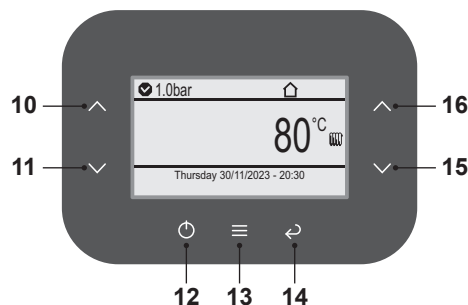

Fig. 8.47
- Press key 13 (Fig. 8.47) to go to the main menu (Fig. 8.48).
- Press key 10 or 11 (Fig. 8.47) to select the desired menu.
- Press key 13 (Fig. 8.47) to access the selected menu.
- Use key 15 or 16 (Fig. 8.47) to change the value of the parameter.
- Press key 13 (Fig. 8.47) to confirm the change or key 14 to exit without changing the value (return to previous level).